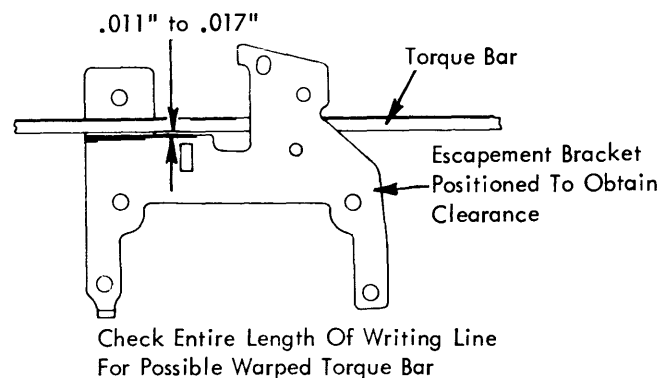

FIGURE 94. Escapement Bracket
1. Escapement Bracket - Adjust the escapement bracket front to rear so that .011" to .017" clearance exists between the escapement bracket and the tab torque bar (Fig. 94). Keep the rear surface of the bracket parallel to the torque bar. The clearance should be observed between the flat part of the bracket and the torque bar. Disregard the raised area that acts as a back-up for the torque bar on later level machines.